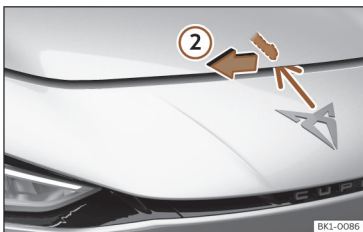

Fig. 156 Lever under the bonnet.
- To lift the bonnet, press towards the left on the lever located under the bonnet, in the centre» **Fig. 156** ②. The fastening hooks are unlocked.